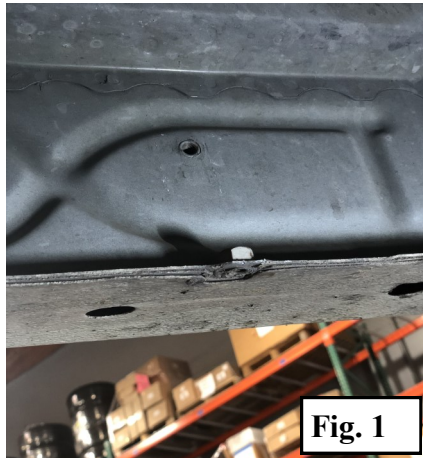

Fig. 1
**Step 3** : Look under the vehicle and locate the OE mountings locations (**Fig. 1,2**). Install the mounting brackets (**4 total per side**) **3, 302JU701** and **1, 302JU702 drvr; 3, 302JU702 and 1, 302JU701 pass** onto the OE mounting holes. Use the **M8x1.5x30mm** metric hex bolt and washer provided **2 per bracket (Fig. 3,4)**. Tighten to **12 ft-lbs**.